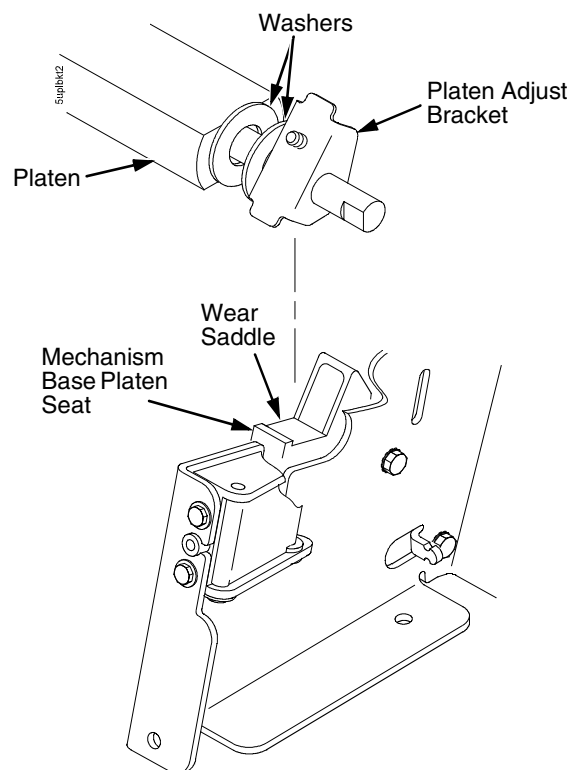

Figure 21. This figure shows how to position the platen adjust brackets on the mechanism base and wear saddles.
4. Make sure the two wear saddles are set flush into the corners of the mechanism base platen seat. (See Figure 21.)